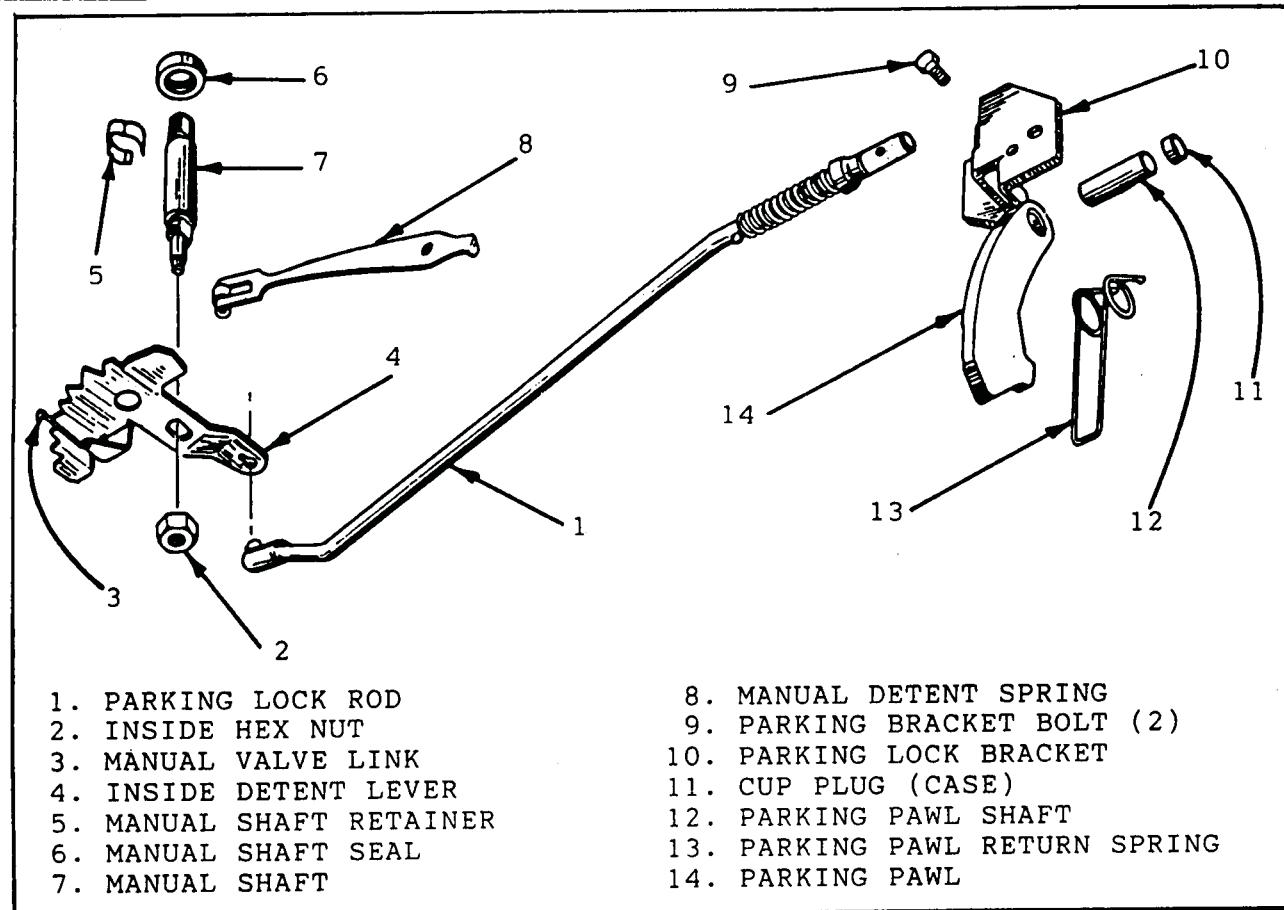

Figure 69
6. Remove inside detent lever and the parking lock rod (Figure 69).
10. Refer to Figures 69 and 70.
6. Install manual shaft retainer onto the manual shaft by snapping into place. Refer to Figure 69.
2. Install parking pawl and parking pawl return spring into case, refering to Figures 69 and 70.